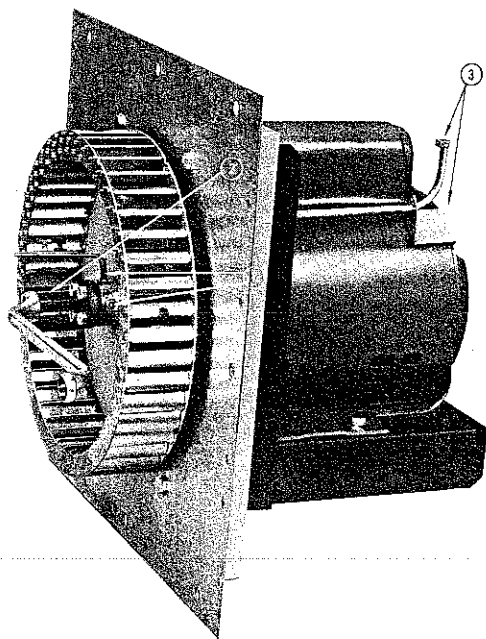

FIG. 15
3. Loosen the two socket head set screws on the wheel hub. (Figure 15, No. 1).
4. Screw 3/8-16 bolt into threaded disc on front of blower wheel hub. (Figure 15, No. 2).
On oven installations which are accessible from the back, oil motor yearly at oil caps (Fig. 15, No. 3). On installations which are not accessible from the back remove motor as in (n) and oil. CAUTION: do not over oil.